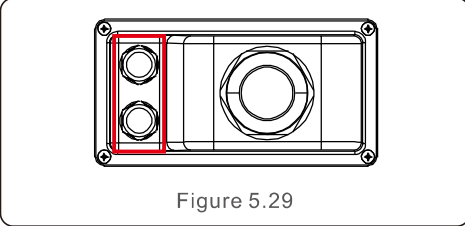

Figure 5.29
- b. Screw off the covers of "COM2" and "COM3" on the inverter as shown in Figure 5.29.